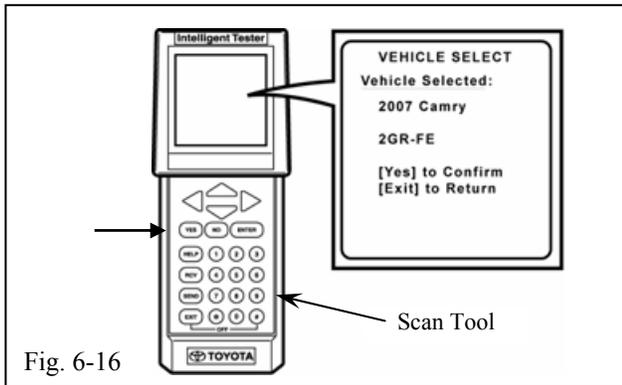

Fig. 6-16
- (w) Confirm that the correct vehicle applications are displayed. Press the "YES" button to continue. (Fig. 6-16)
Note: Fig. 6-16 depicts an example of the vehicle type that may appear. It is dependant on the type of vehicle that is being programmed.